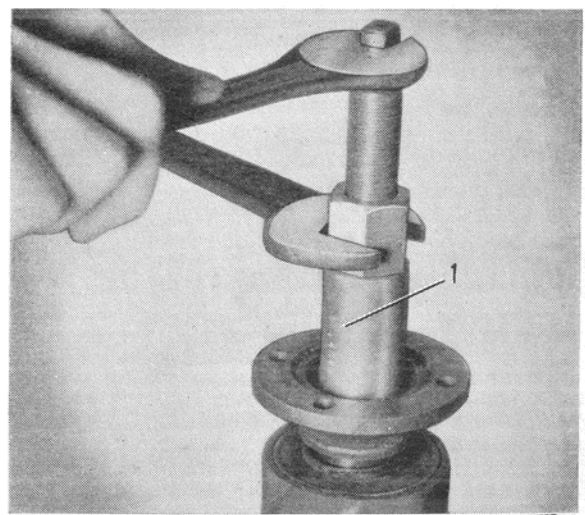

Fig. 9. Fitting the flange.
4. Press on the flange by using an SVO tool as shown in fig. 9.
5. Fit the differential with crown wheel, bearing races, cap (37) and adjusting nuts (34). Do not tighten the cap bolts (44) more than that it is possible to turn the adjusting nuts.
8. Fit the metal washer (19) and the seal ring (20) with the washer. Use tool SVO 4061 for the seal ring as shown in fig. 8. Then press on the flange with the help of tool SVO 4049 as shown in fig. 9. Fit the washer (24) and the nut (22) which should be tightened to the torque shown in the specifications. Check the run-out and alignment tolerance of the flange. These should not exceed 0,075 mm (0.0030") and 0,09 mm (0.0035") respectively. If the flange is faulty, it should be replaced.